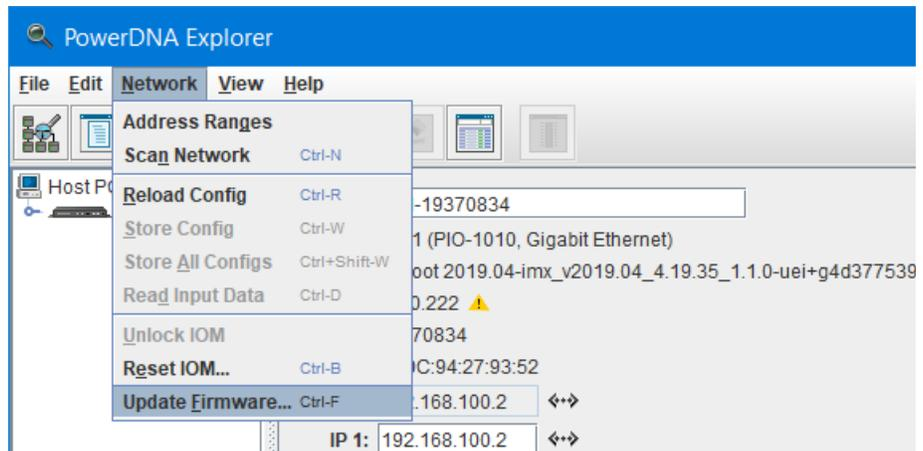

Figure 3-14 Update Firmware Menu Item
STEP 3: Click **Network » Update Firmware...** from the menu (**Figure 3-14**).